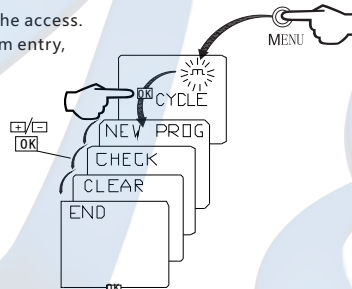

figure 8
(1) press "Menu" button continuously until the display screen displays "MANUAL", and press "OK" button to confirm entry.
(2) through the "+", "-" key selection, when the display "PERM ON/OFF", press "OK" button to confirm entry.
(3) to cancel permanent on/off, press "Menu" until the screen displays "MANUAL", press "OK" to confirm entry, and the screen will display "CLEAR" and press "OK" to confirm to cancel. ● CYCLE PROGRAM setting (see figure 8):